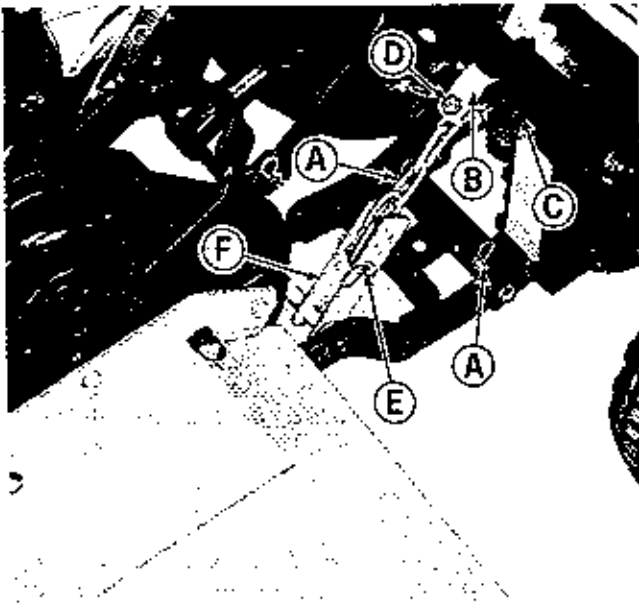
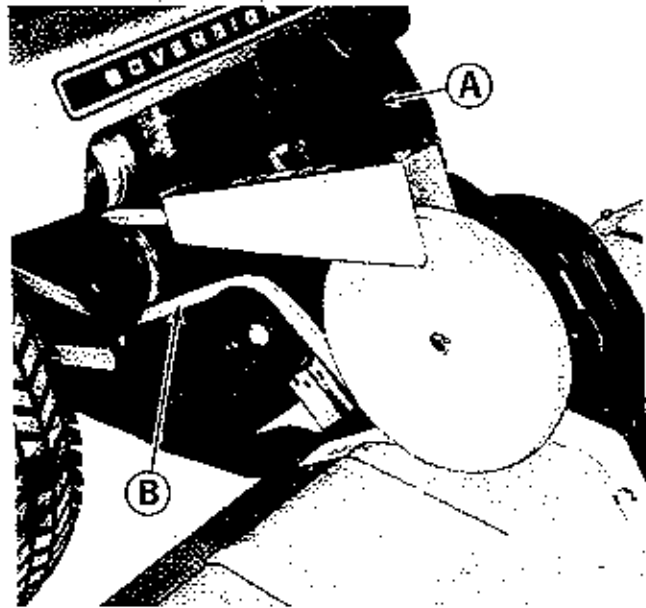
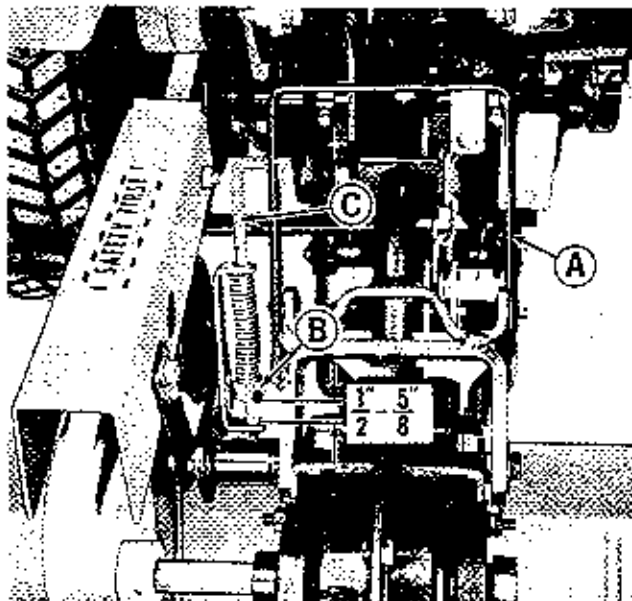

Figure 4. Tiller depth chain installed.
Figure 5. Tiller drive belt seen from left side of tiller.
Figure 6. Drive belt tension adjustment.
6. See figure 4. Align the holes in the tiller hitch with the tractor frame and install the two pins and spring clips at (A).
7. Place clamp (B) over bar (C) and fasten in place as shown using a pin and spring clip (D).
8. See figure 6. Pull rearward on tiller clutch (A) to release spring tension on the idler pulley so the tiller drive belt (Figure 5, item B) can be installed as shown.
9. See figure 6. Push forward on tiller clutch lever (A) to put tension on the tiller drive belt. The distance between set collar (B) and the rod guide should be 1/2" to 5/8". If adjustment is required see Adjusting Drive Belt Tension on page 4 of this manual.
2. See figure 5. Pull rearward on the tiller drive clutch (A)
- to release belt tension and remove belt (B) from the tiller drive pulley.
3. See figure 4. Use the tractor lift lever or electric lift switch to lift the tiller to the raised position. Remove the two spring clips and pins at (A) and remove the spring clip and pin (D) to disconnect clamp (B).
See figure 4. Maximum tilling depth is regulated by the depth chain adjustment. Pin (E) may be placed in various holes in bracket (F) to limit tilling depth. To increase tilling depth, place pin (E) in one of the holes near the top of bracket (F). Other operating settings which influence tilling depth are covered under Tilling Depth on page 4.
To minimize wear on the tiller drive clutch the tiller should be engaged when it is out of the ground. If your Simplicity tractor is a 1971 or earlier model, the tiller is engaged by pulling forward on the tiller drive clutch, (Figure 6, Item A). If your Simplicity tractor was built after 1971, the tiller drive clutch (Figure 6, Item A) can remain forward in the engaged position and the tiller engaged and disengaged by using the tractor power take off lever on the left side of the tractor frame. Refer to your tractor owner's manual for details on using the power take off clutch control lever. **CAUTION: TO PREVENT DAMAGE TO THE TILLER DRIVE OR TRACTOR POWER TAKE OFF, DISENGAGE POWER TO THE TILLER DRIVE IMMEDIATELY IF THE TILLER TINES STOP TURNING DURING OPERATION.**
See figure 6. The tiller drive belt tension is correct when there is 1/2" to 5/8" clearance between collar (B) and the rod guide when the belt is correctly installed and the tiller drive clutch (A) is forward in the engaged position. If adjustment is required proceed as follows:
1. See figure 6. Pull the tiller drive clutch (A) rearward to release tension on the drive belt.
2. Loosen the set screw on collar (B).
3. Slide rod (C) further down to increase belt tension or pull it up to decrease belt tension.
4. Tighten set screw in collar (B).
5. Pull the tiller drive clutch (A) forward to engage the tiller drive.
6. See figure 6. Check the distance between set collar (B) and the rod guide to insure that it is 1/2" to 5/8". Repeat the procedure if the adjustment is not correct.
A thin film of grease or a few drops of SAE 30 weight engine oil, should be placed on a tiller mounting tube, Figure 2, Item B and the drive belt tension rod Figure 6, Item B.